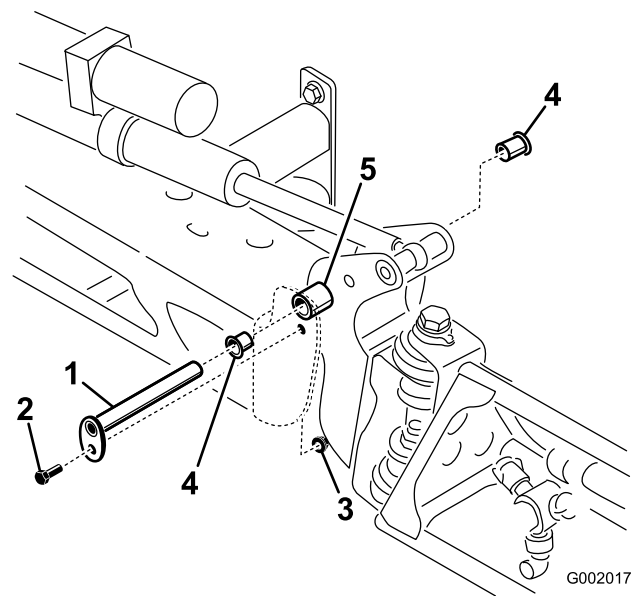

Figure 71
3. With the weight of the boom supported, remove the bolt and nut securing the pivot pin to the boom assembly (Figure 71). Remove the pivot pin.
5. Remove and inspect the nylon bushings from the front and back sides of the pivot bracket (Figure 71). Replace any damaged bushings.
7. Install the boom and pivot bracket assembly into the center frame, aligning the openings (Figure 71).